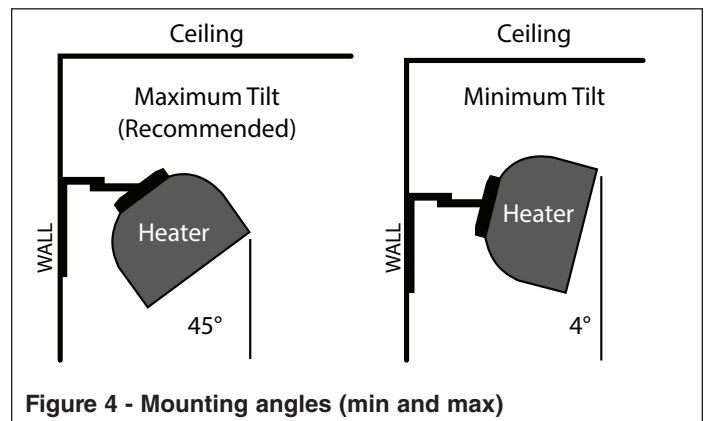

Figure 4 - Mounting angles (min and max)
8. Heater bracket will allow the heater mounting angle to be adjusted from approximately 4°- 45° from vertical. The optimum angle is 45° - see Fig. 4